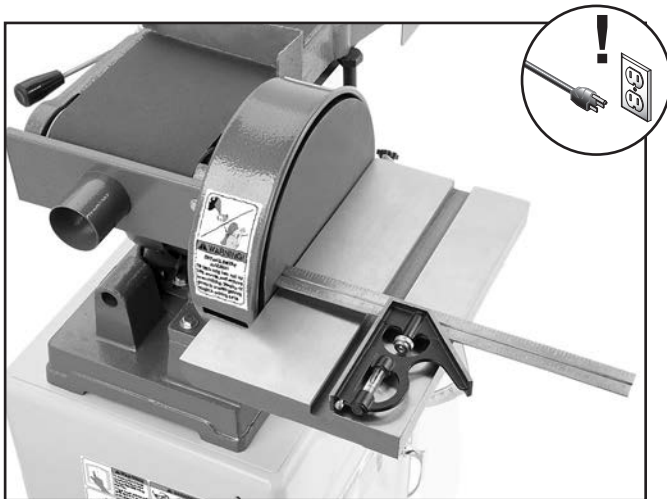

Figure 85. Checking miter slot parallelism (sanding disc shown).
2. Remove the miter gauge, then place a combination square with the 90° square in the miter slot, as shown in **Figure 85**.